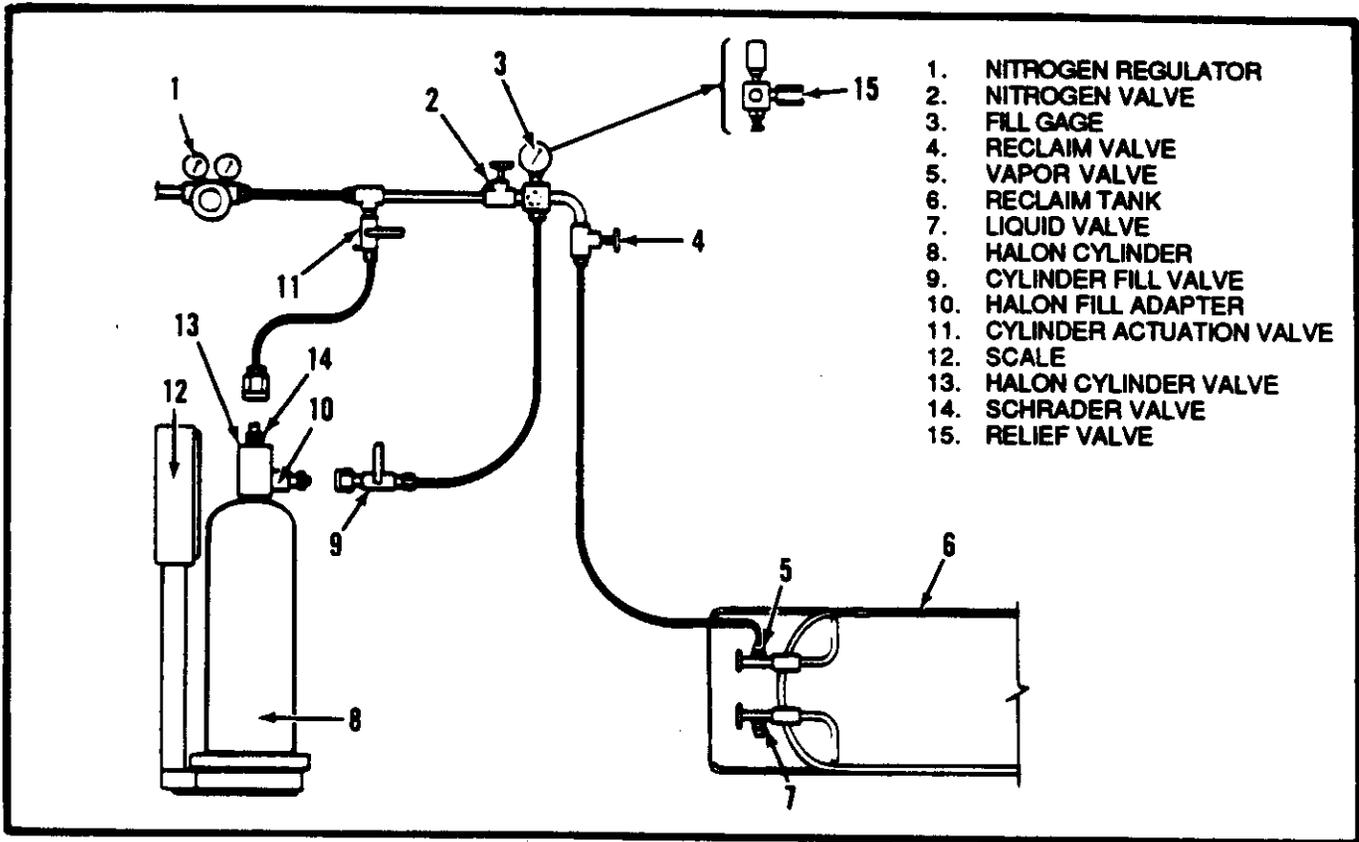

Figure 6-5. Halon 1301 Cylinder Discharge Station
a. Set up discharge station as shown in figure 6-5. Place cylinder assembly (8) on scale (12).
c. Immediately install Halon 1301 fill adapter (10) handtight,